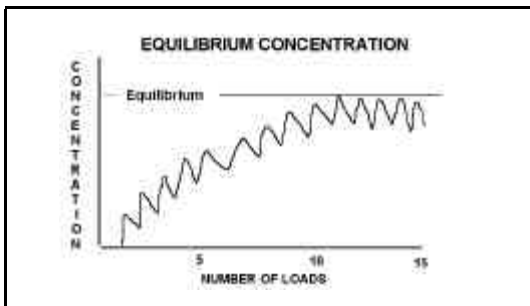

Figure 2
- 1) Concentration of tank chemistry in dragout (C), which is measured in parts per million (ppm) (1 oz/gal = approximately 7500 ppm)
- 2) Volume of dragout (V), which is the volume of water/chemistry moved (with the parts and carrier) from the wash to the rinse stage.
- 3) Flow rate of rinse water (F), which is measured in gallons per hour (gph).
- 4) Rinse tank equilibrium concentration (E), which is a function of flow rate and dragout, to the point at which incoming and outgoing chemistry levels are equal (see Figure 2)